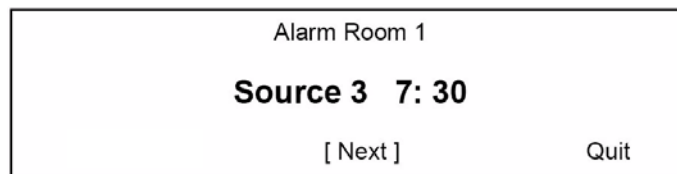

FIG. 45 Example: Alarm Room 1
- If an alarm has been set for any room/zone, the room number, source number and alarm time are displayed (FIG. 45):